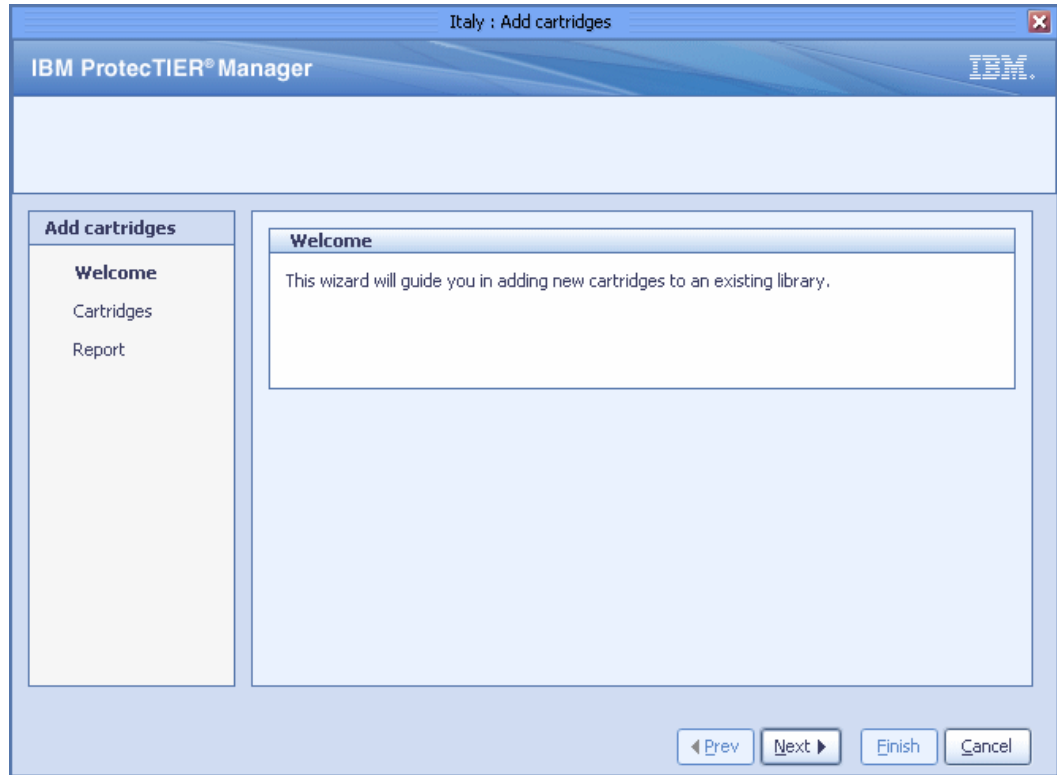

Figure 10-32 Add cartridges: Welcome window
1. From the menu bar, select **VT** → **VT** → **Add cartridges**. The Add cartridges wizard Welcome window opens (Figure 10-32).